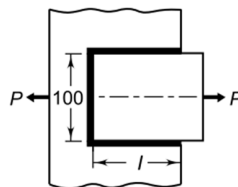

Figure 1
- (b) A steel plate, 100 mm wide and 10 mm thick, is joined with another steel plate by means of single transverse and double parallel fillet welds, as shown in Figure 1. The strength of the welded joint should be equal to the strength of the plates to be joined. The permissible tensile and shear stresses for the weld material and the plates are 70 and 50 N/mm^2 respectively. Find the length of each parallel fillet weld. Assume the tensile force acting on the plates as static. [7M]